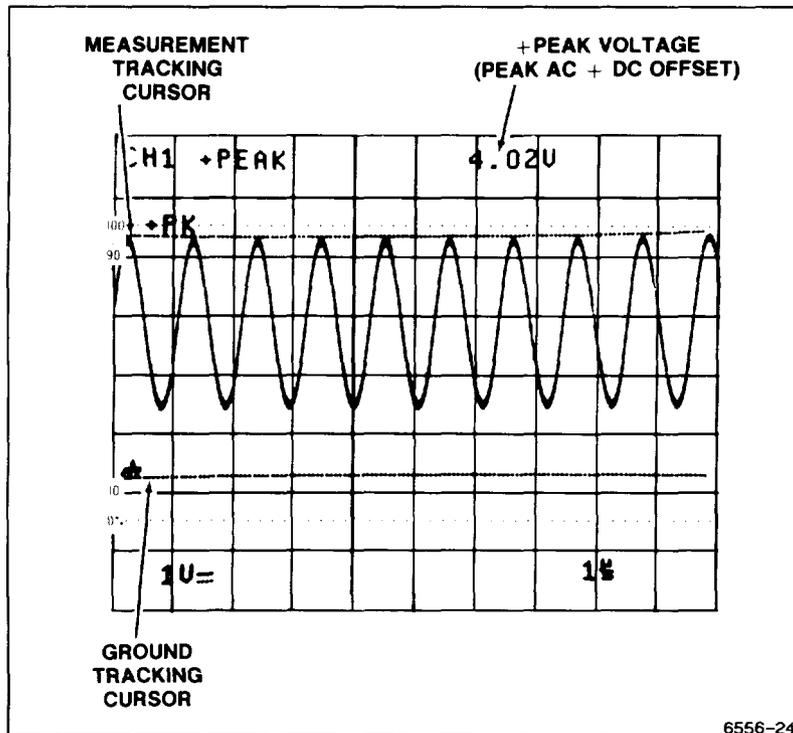

Figure 5-1. +PEAK voltage measurement and tracking cursors.
6. See Figure 5-1. The test signal used for the example has a dc offset (as shown by the position of the TRACK $\overline{||}$ cursor) and +PEAK value (peak ac + dc) as indicated by the voltage readout.